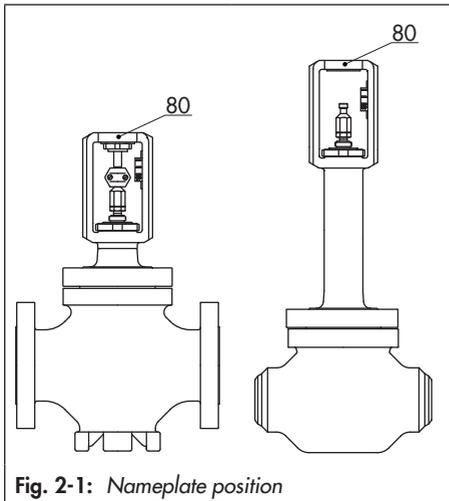

Fig. 2-1: Nameplate position
The nameplate (80) is affixed to the yoke of the valve (see Fig. 2-1).